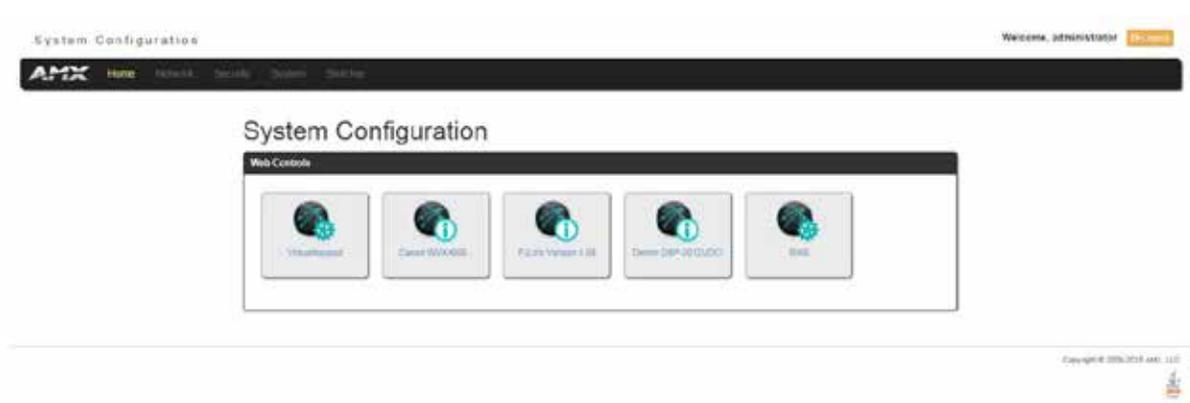

FIG. 59 WebConsole - WebControl Page (initial view)
2. Press Enter to access WebConsole for that Master. The initial view is the Web Control page (FIG. 59).
The webconsole consists of a series of web pages that are collectively called the “Master Configuration Manager” (FIG. 59).